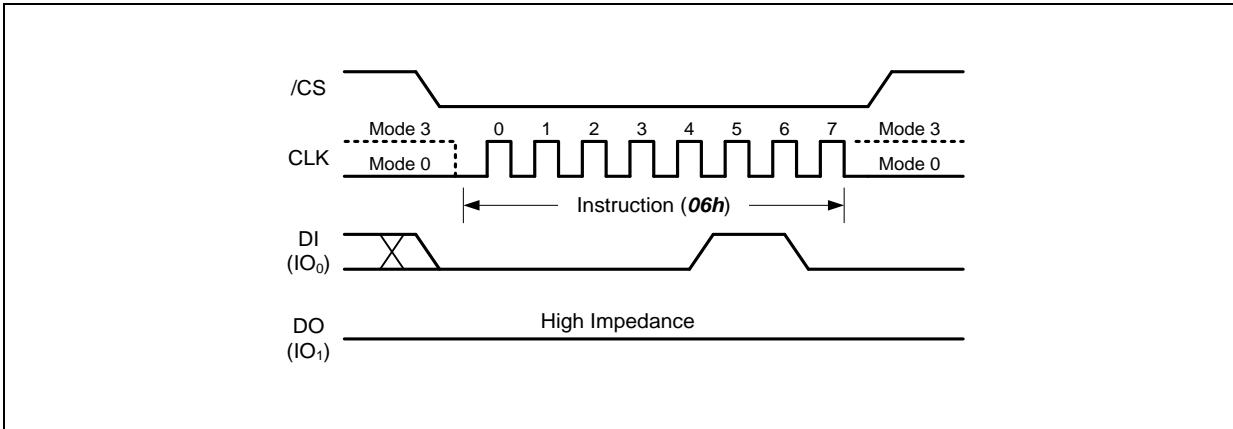

Figure 15. Write Enable Instruction
The Write Enable instruction (Figure 15) sets the Write Enable Latch (WEL) bit in the Status Register to a 1. The WEL bit must be set prior to every Load Program Data (02h/84h/32h/34h), Program execute and Block Erase instruction. The Write Enable instruction is entered by driving /CS low, shifting the instruction code "06h" into the Data Input (DI) pin on the rising edge of CLK, and then driving /CS high.